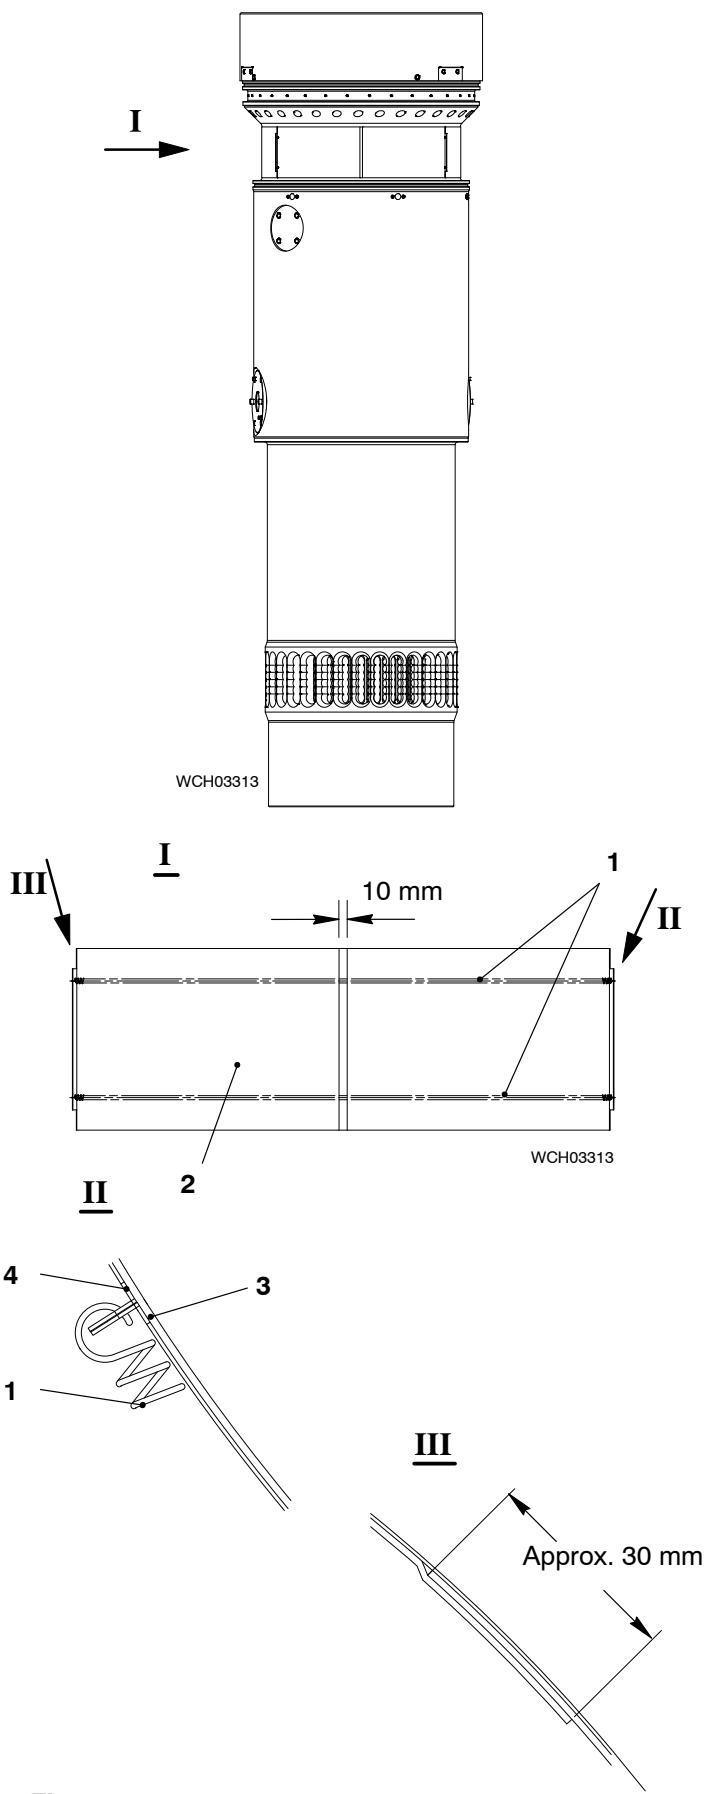

Fig. 9
- 3) Use the assembly tool (94233, Fig. 9) to remove all the tension springs (1).
- 4) Remove the plate (4).
- 5) Remove insulation bandage (2).